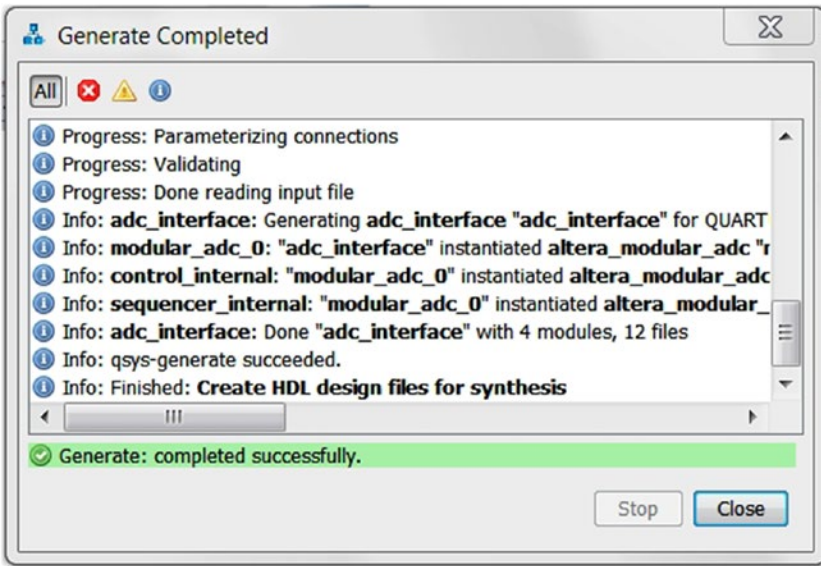
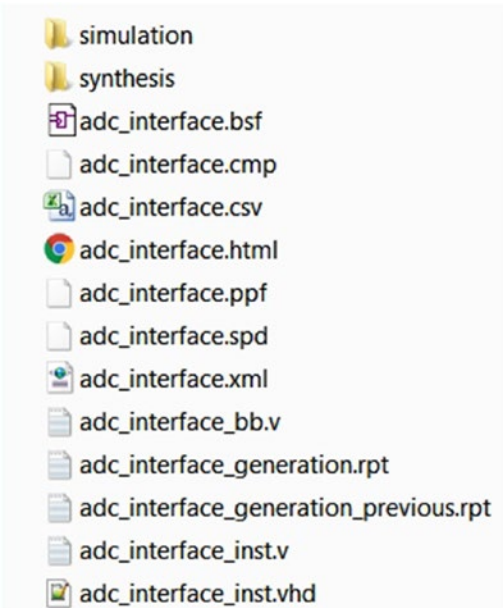

Figure 12-13. Altera Modular ADC core IP generate completed
Figure 12-14. ADC interface—Altera Modular ADC core IP generated file list
Step 7: Generate Completed window (Figure 12-13) will show up after you click the generation in the last step. Next click **Close** on the Generate Completed window and click **Finish** in the IP parameter editor window. Figure 12-14 shows all the files generated by the Altera IP tools. The name of the generated IP is `adc_interface`.